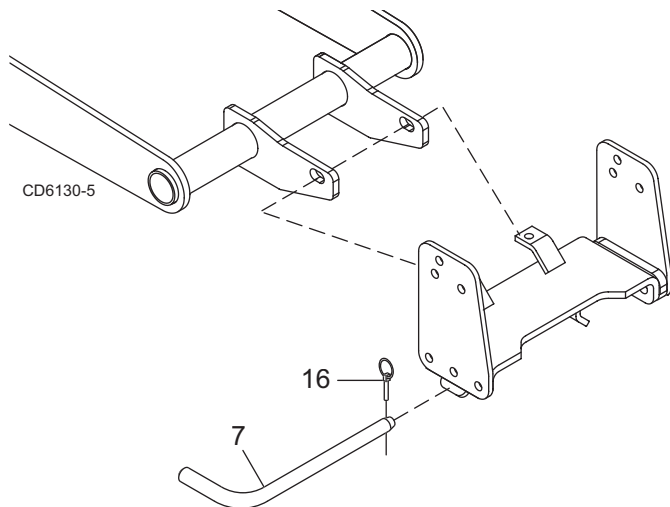

Figure 10 Bent Pin Installed
2. Align front hanger and sub-frame. Install bent pin (7) and klik pin (16) as shown in Figure 10.